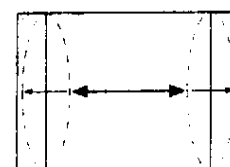

Fig. 5
- Adjust the PIN AMPLITUDE to obtain condition as in (fig. 5).